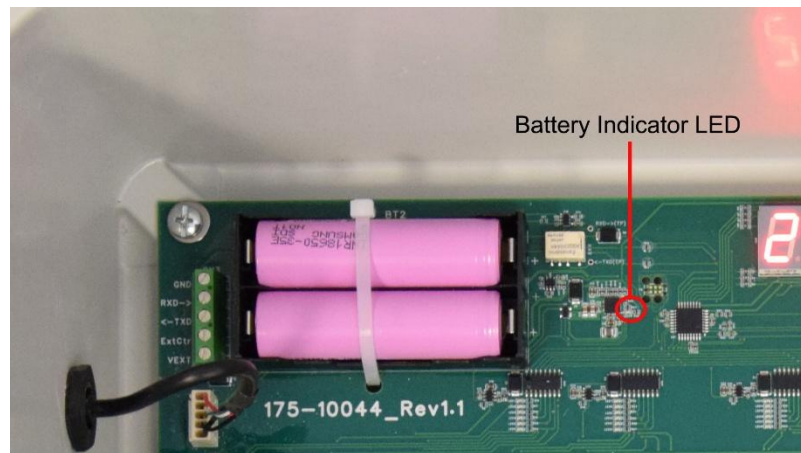

Figure 9: Battery Indicator LED Location on PCB
- The battery indicator LED light on the PCB has been labeled in Figure 9.